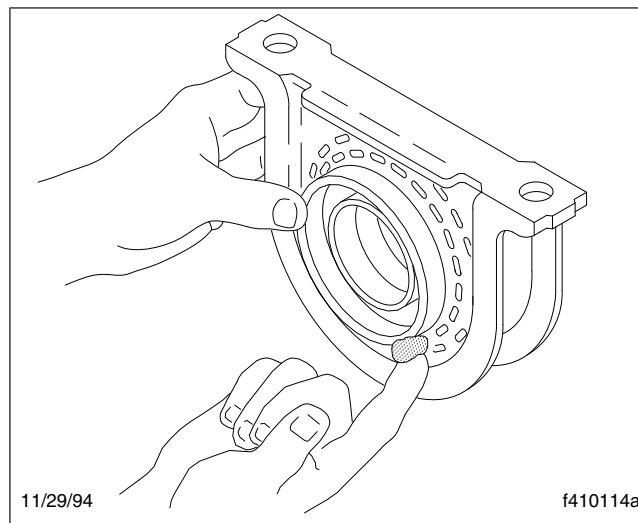

Fig. 5, Greasing a Midship Bearing
2. Fill the entire cavity around the midship bearing with a waterproof grease, to shield the bearing from water and contaminants. Use enough grease to fill the cavities to the extreme edge of the slingers that surround the front and rear of the bearing. See Fig. 5.